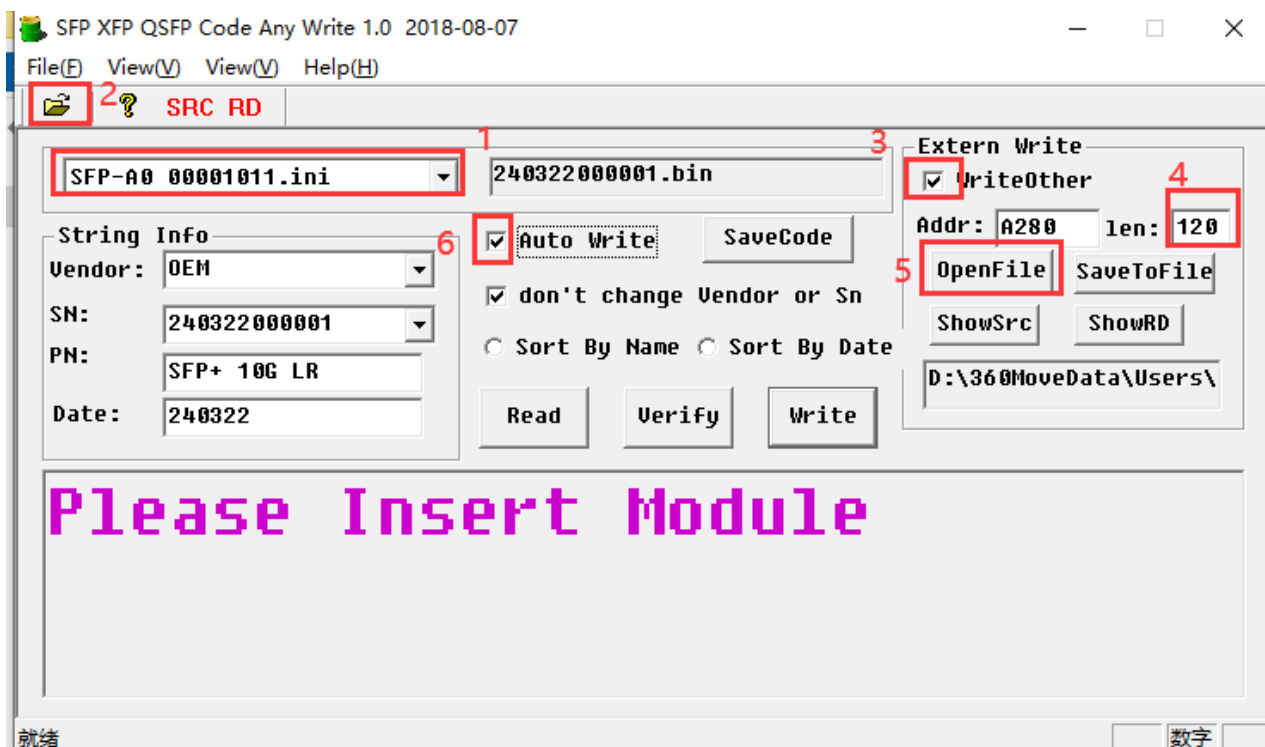

Figure 14
4.1 Select the configuration file "SFP-A0 00001011" corresponding to the 10G LR optical module with the password "00 00 10 11" (as shown in Figure 14)
4.2 Click  Or select the menu: File->Select Code Source Foler, select See below,choose the folder where you saved the codes, Click OK. (as shown in Figure 14)
4.3 Check the "WriteOther" box (as shown in Figure 14)
4.4 Change the "len" value to 120 (as shown in Figure 14)
4.5 Click "OpenFile" and select the Page02 file that needs to be written (as shown in Figure 14)
4.6 Check the "Auto Write" box (as shown in Figure 14)